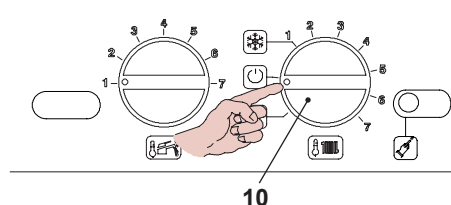

Figure 17.18
- To exit programming, position selector 8 as shown in Figure 17.18.